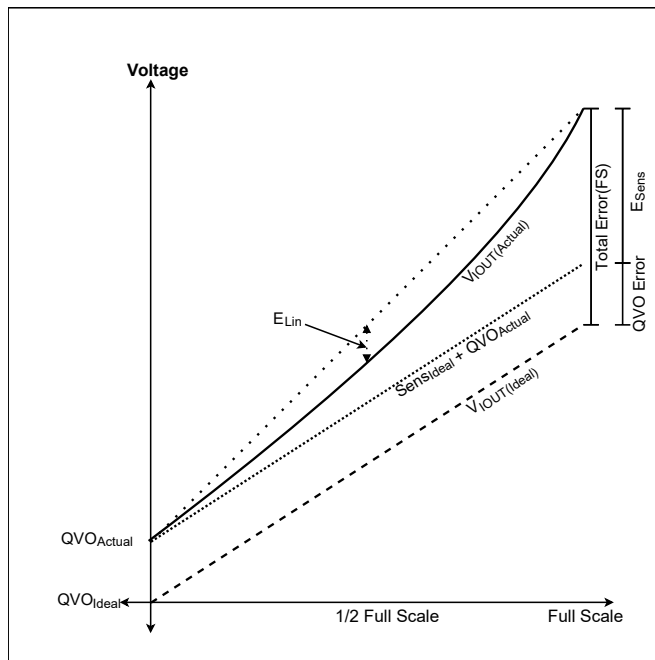

Figure 9: Accuracy Error
As the amount of field applied to the part changes, the sensitivity of the device can also change slightly. This is referred to as linearity error or E_{LIN} (see Figure 9). Consider two currents, I_{P1} (1/2 FS) and I_{P2} (FS). Ideally, the sensitivity of the device is the same for both fields. Linearity Error is calculated as the percent change in sensitivity from one field to another. Error is calculated separately for positive ($E_{LIN(+)}$) and negative ($E_{LIN(-)}$) currents, and the percent errors are defined as:
Total Output Error incorporates all sources of error and is a function of current. At relatively high currents, Total Output Error will be largely due to sensitivity error, and at relatively low inputs, Total Output Error will be mostly due to Offset Voltage (V_{OE}). At $I_P = 0$ A, Total Output Error approaches infinity due to the offset. An example of total error at FS can be seen in Figure 9.